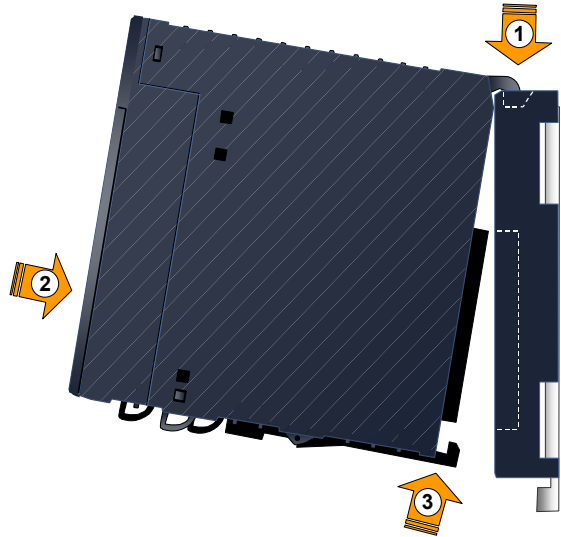

Figure 24: Installing Module in Backplane
- Engage the rear pivot hook(s) of the module (Figure 24) in the notch(es) on the top of the backplane (1).
- Swing the module down (2) until the connector of the module engages the backplane connector, and the release lever(s) on the bottom of the module snaps into place in the bottom module retainer (3).